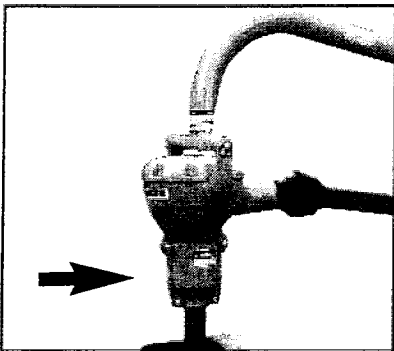

FIG. 6 - AUGER ADAPTER GUARD INSTALLED
STEP 13: Install the Auger Adapter Shields, PN 7271, around the auger adapter and secure to the ears on the gearbox with two bolts, PN 1180, and two nuts, PN 2168. Install two bolts, PN 2339, and two nuts, PN 2168, in the bottom two holes of the Auger Adapter Shields (see FIG. 6).